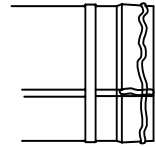

Figure 7.
1. Follow the **Main Instructions** for Saf-T Vent Chimney Relining System packed with the single wall conduit sections to inspect and prepare the chimney. Locate the breaching hole and open the chimney as described in the **Main Instructions**. Before joining the elbow and conduit sections together, wipe the male and female ends clean with alcohol wipes. Apply a bead of GE RTV 106 sealant, about 1/4 inch in diameter, completely around the **male** (without the tabs) end of each conduit section, between 1/4 and 3/8 inch from the end of the section. Also run a similar sized bead down the seam weld of each section, from the edge of the pipe to the top of the bulge (see Figure 7).
Apply a bead of GE RTV 106 sealant, about 1/4 inch in diameter, completely around the **male** (without the tabs) end of each conduit section, between 1/4 and 3/8 inch from the end of the section. Also run a similar sized bead down the seam weld of each section, from the edge of the pipe to the top of the bulge (see Figure 7).